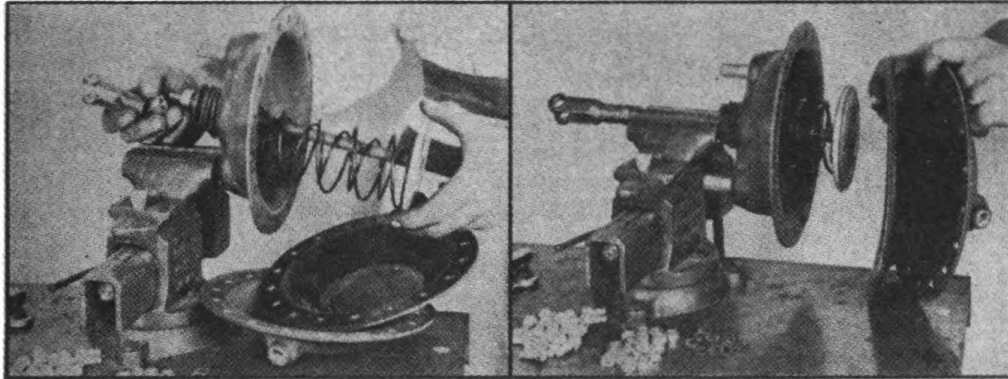
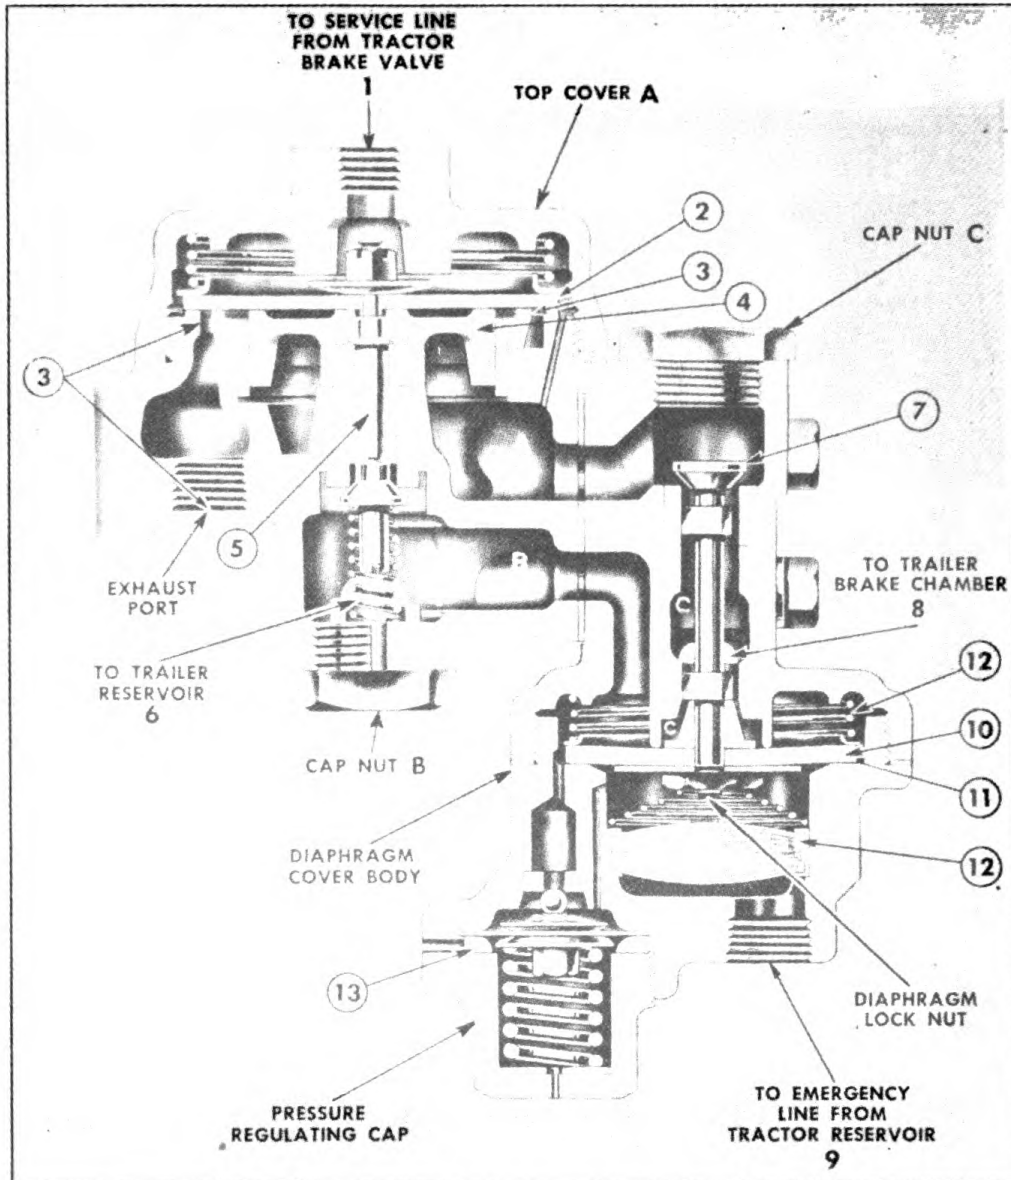

FIGURE 27. BRAKE CHAMBER—
FIGURE 28. RELAY—EMERGENCY VALVE
(1) Follow the procedure outlined above for the disassembly of the brake chamber.
(2) Remove the brake push rod and install the new spring. Make sure the spring is seated properly on push rod plate (Fig. 27).
(3) Bent or worn pressure plates should be replaced.
(4) Slightly bent brake push rods may be straightened; if severely bent should be replaced.
(5) Worn boots should be replaced.
17. RELAY-EMERGENCY VALVE (Fig. 28).—*a. Function.*—The relay-emergency valve serves as a relay station to speed up the application or release of the trailer brakes and also provides a means of automatically applying the trailer brakes in case the trailer breaks away from the tractor.
b. Operation (Fig. 28).—The operation of the relay-emergency valve is dependent upon the air pressure delivered to it by the brake valve on the tractor.
g. Disassembly.—Diaphragms (2) and (10) should be replaced once a year.
(1) To clean or replace diaphragm (2). (Fig. 28):
(2) Cleaning or replacing intake valve (5). (Fig. 28.)
(3) Cleaning or replacing diaphragm (13). (Fig. 28.)
- (4) Cleaning or replacing diaphragm (10). Washing strainer (12). (Fig. 28.)
- (c) Remove cap nut (C). (Fig. 28.) Insert screw driver into slotted
h. Maintenance (Fig. 28).—The complete valve should be removed from the trailer, dismantled, thoroughly cleaned, and diaphragms (2) and (10) should be replaced at least once a year.
i. Leakage tests (Fig. 28).—(1) With brakes released, cover exhaust port with soap suds. Leakage is caused by supply valve (5) not seating properly.
(2) With brakes applied, cover exhaust port with soap suds. Leakage is caused by diaphragm (2) not seating properly.
j. Emergency feature tests (Fig. 28).—(1) With full pressure in the trailer reservoir, disconnect emergency line between tractor and trailer. Trailer brakes should apply automatically. This feature should be checked daily.
(2) Cover emergency line hose coupling at front of trailer with soap suds to check for leakage. Leakage is caused by diaphragm (10) not seating properly at (11).
(3) With valve still in emergency position, cover exhaust port with soap suds. Leakage in excess of that evident in test one is caused by valve (7) not seating properly.